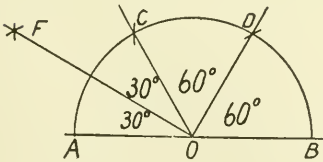

Fig. 596
An *arc* is measured by the number of degrees it includes, as the arc DB in Fig. 596. An *angle* is also measured by the number of degrees of the arc included between its sides, as the angle DOB in Fig. 596.
11. To draw angles of 30° , 60° , 120° , and 150° with dividers (Fig. 596).— On one side of a straight line, with any radius, draw a semi-circumference. With the same radius, and A and B as centres, strike arcs inter-